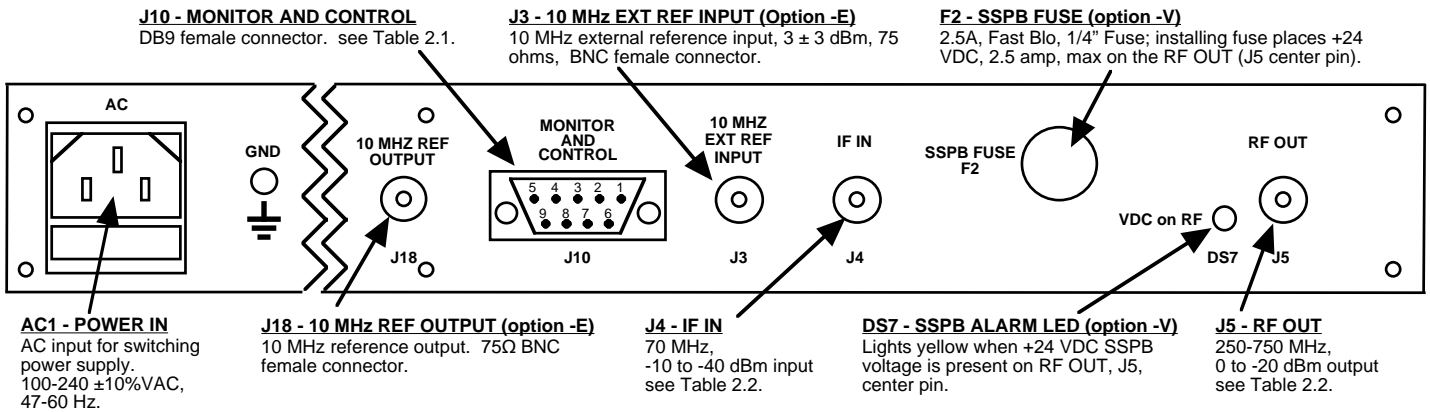

FIGURE 2.1 2015-75 Rear Panel I/O's
2.2 Rear Panel Input/Output Signals - Figure 2.1 shows the input and output connectors on the rear panel.
1. Connect a -10 dBm to -40 dBm signal to IF In, J4 (Figure 2.1)
8. Option -V only - To insert SSPB +24 VDC on the RF center pin install 2.5A fast blo fuse in F2 and check that DS7 lights yellow (Figure 2.1)